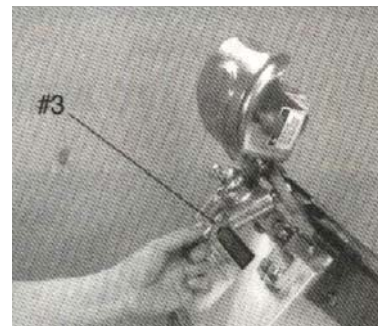

Fig.17-2
2. Pull out knob #3 (Fig.17-2)
NOTE : If knife becomes very dull, activate only the bottom stone by pushing in knob #3 (Fig.17-2). When sharpening with the bottom stone is completed, pull out knob #3 (Fig.17-2). This allows simultaneous sharpening with both stones. Always finish sharpening using both stone.